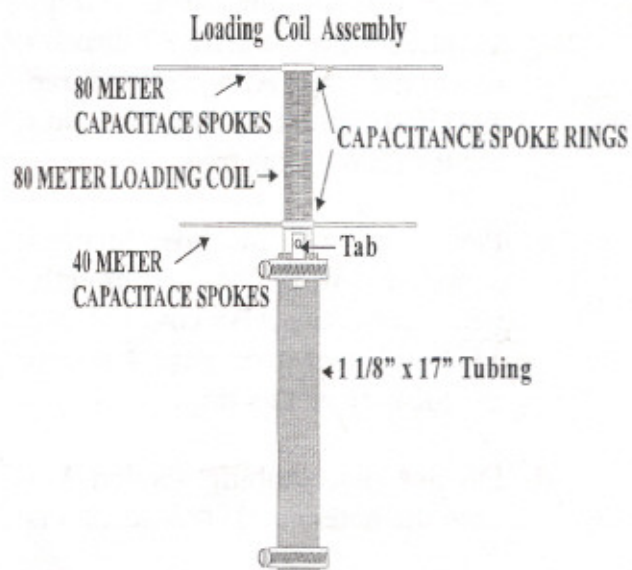

FIGURE 1
2. Place a 4-40 screw in each of the 16 holes on the capacitance spoke rings and secure them using a 4-40-kep nut. Refer to figure 1. Snug each one using a 5/16" nut driver. Be careful not to lose the screws and nuts.
3. Place the large end of the 1 1/8" X 17" aluminum tubing over the end of the loading coil assembly tube as shown in Figure 1.
4. Secure the tubing in place with one of the supplied hose clamps. Be sure to place the connection tab between the aluminum tubing and the clamp as shown in Figure 1.
secure the MK-80 to an existing AV-14AVQ antenna. See Figure 1.
1. Assemble the antenna using the supplied instructions. Figure 1 on page 4 of the AV-14AVQ manual gives approximate dimensions.
- a. Place one of the hose clamps supplied with the MK-80 directly above the black ABS cover of trap 11-10. Figure 1 on page 4 shows the location of this trap.
- b. Place one of the hose clamps supplied with the MK-80 directly above the black ABS cover of trap 14-15. Figure 1 on page 4 shows the location of this trap.
- c. Place one of the hose clamps supplied with the MK-80 directly above the black ABS cover of trap 15-20. Figure 1 on page 4 shows the location of this trap.
already on the antenna, remove it. Refer to Figure 1.
Tune the AV-14AVQ according to the instruction manual. Figure 1 on page 4 gives the dimensions for operation on 10, 15, and 20 meters. Remember to start with the 10 meter band.